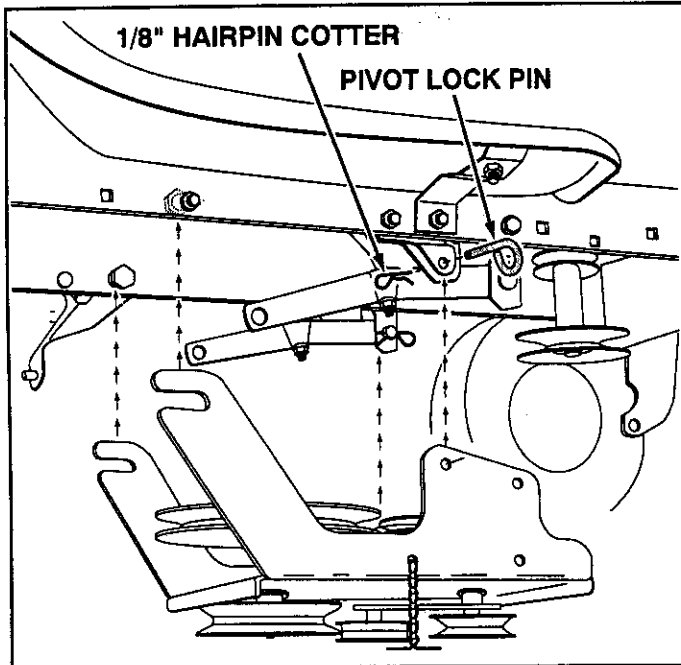

FIGURE 14 RIGHT SIDE VIEW
- Attach the snow thrower's clutch/idler assembly to the tractor frame by sliding the notched arms at the rear of the assembly onto the two shoulder bolts assembled to the inside of the tractor frame. Lift the front of the assembly so that the sides fit inside the R.H. and L.H. hanger brackets. Attach the assembly to the brackets using two pivot lock pins and 1/8" hairpin cotters. See figure 14.